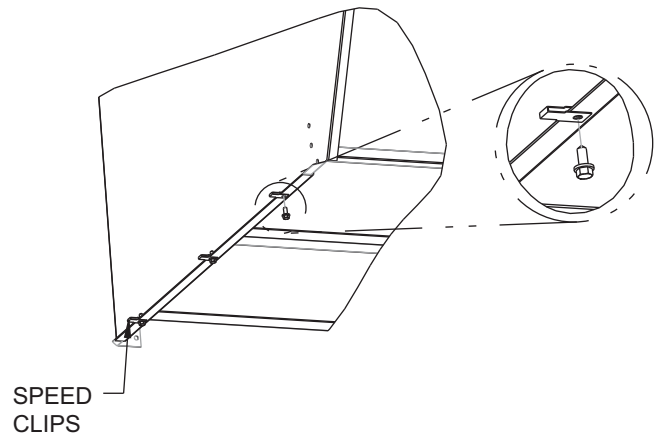

Fig. 30 — Bottom Filters Installed with Flange Pointing Down
11. Attach speed clips (provided) to hood side panels. Engagement section of clip faces up and towards the outside of the hood side panels. Attach mounting angles to hood with gasketed screws provided. See Fig. 30.